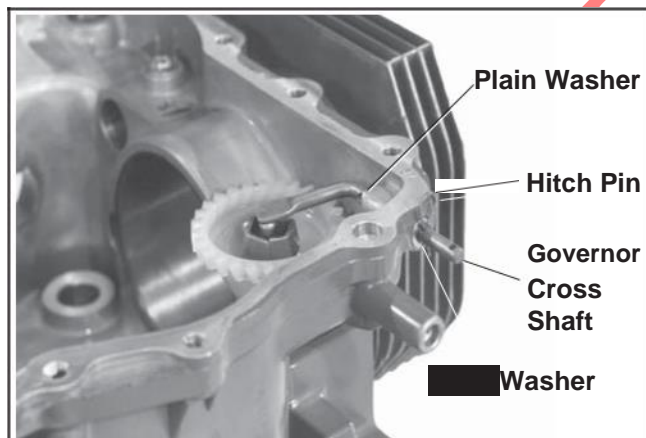

Figure 11-3. Installing Cross Shaft.
4. Install smaller plain washer to the cross shaft and insert the cross shaft (from inside) through the crankcase and oil seal. See Figure 11-3.